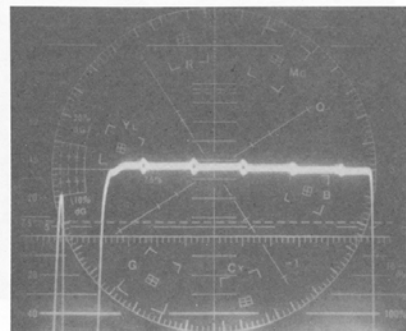

Figure 5-12
- For measuring DG of 2% or less Press the WFM and R-Y buttons at the same time under condition b). Then, the instrument will enter the DG mode. Figure 5-12 shows an example of the waveform.